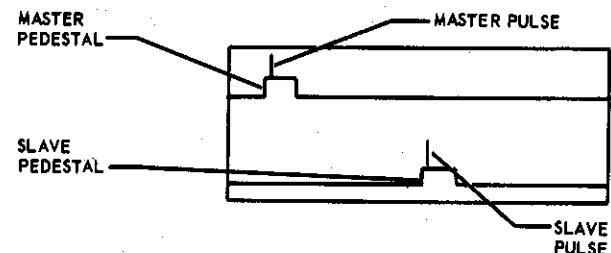

Figure 4-55. Operating Procedure for LORAN A Signal Acquisition Step 3d
- d. Place the master pulse on the master pedestal using the L-R framing control. Slew the slave pedestal under the slave pulse by operating the DELAY switch. For the FUNCT switch in position 1, the slave pedestal will move to the right for a DELAY switch setting of either R-coarse or R-fine. Once the master and slave pulses have been placed on their respective pedestals, the CRT display should appear as shown in figure 4-55.